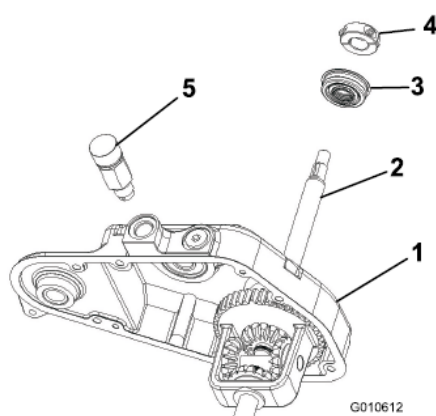

Figure 2
11. Install the gasket, provided with the kit, onto the gear case carefully aligning it with the (2) guide pins. Install the new gear case cover, and reinstall the fasteners to 120-140 in-lbs.
12. Install the vent/stand pipe (Figure 2).
13. Install the new seals on the right and left differential shaft locations using the K-Line TOR6009 seal installation tool (Figure 2). This tool must be used to avoid possible damage to the gear case castings. Seal installation can either be performed before or after the gear case is reinstalled onto the engine mount. Stop installation torque to the tool when the metal flange of seal first meets the face of the gear case bore. **Do not attempt to press the seal further or internal damage to the transmission may result.**
15. Install the shaft collars on each axle shaft. (Figure 2). These collars have 2 locking pins that must fit between the raised oval shaped features on the black rubber face of the new oil seals. The purpose of this locking feature is to prevent the center portion of the seal from spinning on the differential axle shaft. Push the collar against the seal and torque the set screws to 95-100 in lbs.